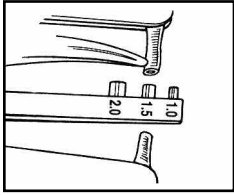

Figure 1
1. After gentle dilation, estimate the **outer** diameter of each vessel using the Vessel Measuring Gauge. The circular guides on the gauge **should not** be placed inside the vessel lumen (See Figure 1). If there is a size discrepancy between the two vessels, use the measurement of the smaller vessel to choose the appropriate FLOW COUPLER. The degree of vessel spasm and the elasticity of the vessel should be considered when choosing the FLOW COUPLER size to be used.